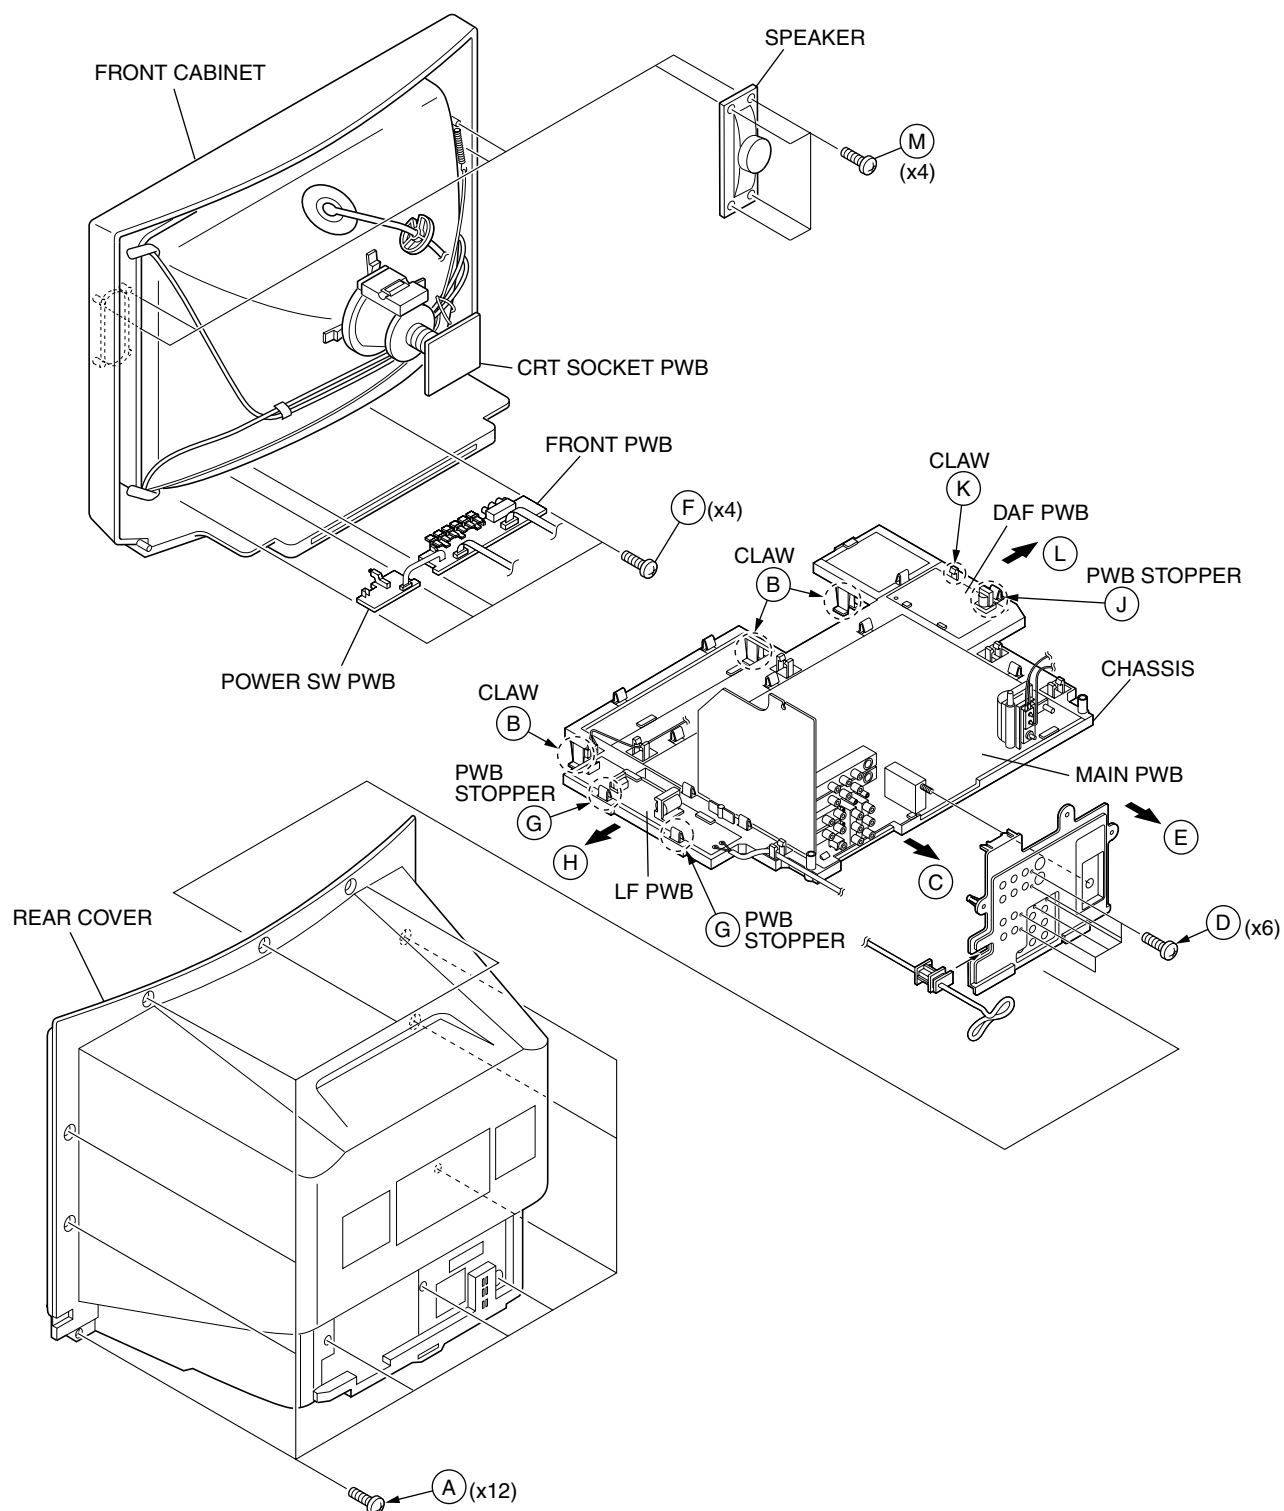

Fig.1
2. Remove the 12 screws marked (A) as shown in Fig.1.
1. Slightly raise the both sides of the chassis by hand and remove the 3 claws marked (B) under the chassis from the front cabinet as shown in Fig.1.
2. Withdraw the chassis backward along the rail in the arrow direction marked (C) as shown in Fig.1.
1. Remove the 6 screws marked (D) as shown in Fig.1.
2. When you pull out the TERMINAL BOARD in the direction of arrow marked (E) as shown in Fig.1, it can be removed.
1. Remove the 4 screws marked (F) as shown in Fig.1.
1. Lift the left side of the LF PWB while pressing the 2 PWB stoppers marked (G) in the arrow direction marked (H) as shown in Fig.1.
1. Lift the right side of the DAF PWB while pressing the PWB stopper marked (J) and claw marked (K) in the arrow direction marked (L) as shown in Fig.1.
1. Remove the 4 screws marked (M) as shown in Fig.1.
(4) System constant check and setting <ol style="list-style-type: none"> <li>1) Press SLEEP TIMER key and, while the indication of "SLEEP TIMER 0 MIN." is being displayed, press DISPLAY key and VIDEO STATUS key on the remote control unit simultaneously.</li> <li>2) The SERVICE MENU screen of Fig.1 is displayed.</li> <li>3) While the SERVICE MENU is displayed, again simultaneously press the DISPLAY and VIDEO STATUS keys to display the Fig.2 SYSTEM CONSTANT screen.</li> <li>4) Refer to the SYSTEM CONSTANT table and check the setting items. Where these differ, select the setting item with the MENU UP/DOWN key and adjust the setting with the MENU LEFT/RIGHT keys. (The letters of the selected item are displayed in yellow.)</li> <li>5) After adjusting, release the MENU LEFT/RIGHT key to store the setting value.</li> <li>6) Press the EXIT key twice to return the normal screen.</li> </ol>	 <p>Fig.1</p>
(7) SERVICE MENU setting Verify what to set in the SERVICE MENU, and set whatever is necessary.(Fig.1) Refer to the SERVICE ADJUSTMENT for setting.